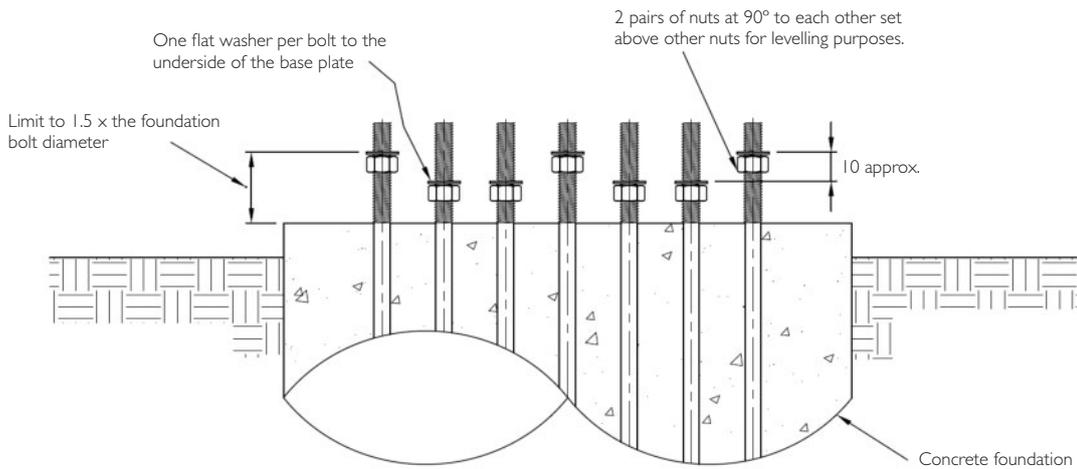

Figure 5.
- 3.21** Adjust two pairs of nuts diametrically opposed at 90 degrees so that they are 10mm higher than the remainder and level with each other. These four nuts will provide a means of obtaining vertical plumbing of the pole (refer figure 5). Limit the space between the top of concrete and the raised nuts to a maximum of 1.5 x foundation bolt diameter. If the pole is required to be back raked on installation, allow the height of one of these pair of nuts to be adjusted to achieve the desired back rake. The pair of nuts at 90 degrees will need to be adjusted to half of the back rate height difference.